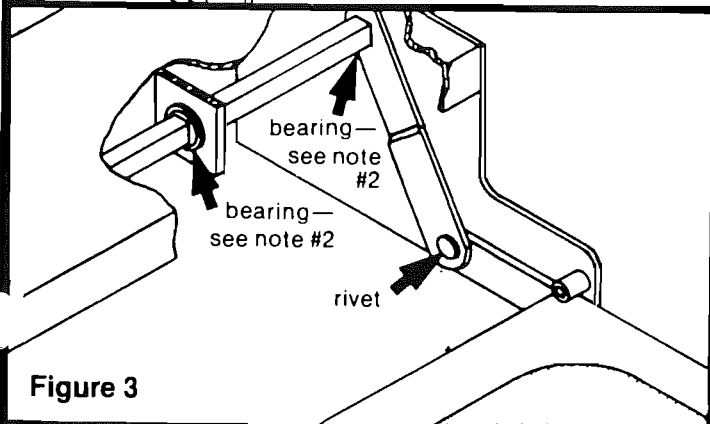

Figure 3
2. **TO CHECK THE MAIN POWER SOURCE:** Connect a voltmeter between the RED wire from the vehicle half of the four way plug and the ring terminal on the end of the 10 ga. green ground wire from the control unit to the vehicle chassis (See Figure 3). The reading should be about 12 volts DC. If the voltage is low there may be a loose or corroded connection, or low battery charge. If the voltage reading is zero, check the 25 or 30 amp fuse/circuit breaker and all connections. Be sure there is a good ground connection between the step frame and the vehicle chassis. A good ground connection is a must. If the reading is approximately 12 volts DC proceed with the next test.